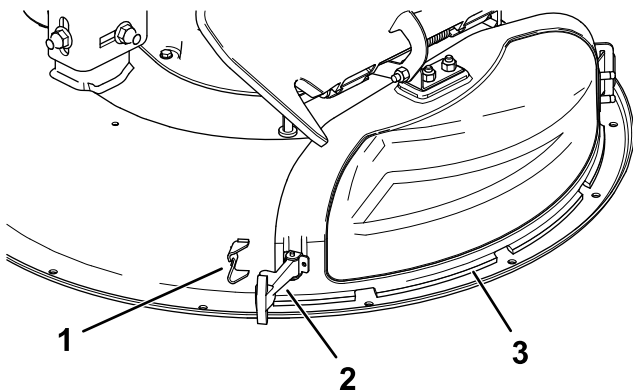

Figure 6
5. Secure the discharge cover to the deck by hooking the flexible latch on the discharge cover into the retainer on the deck (Figure 6).
3. Release the flexible latch from the latch retainer on the discharge cover and pivot the discharge cover to the right (Figure 6).